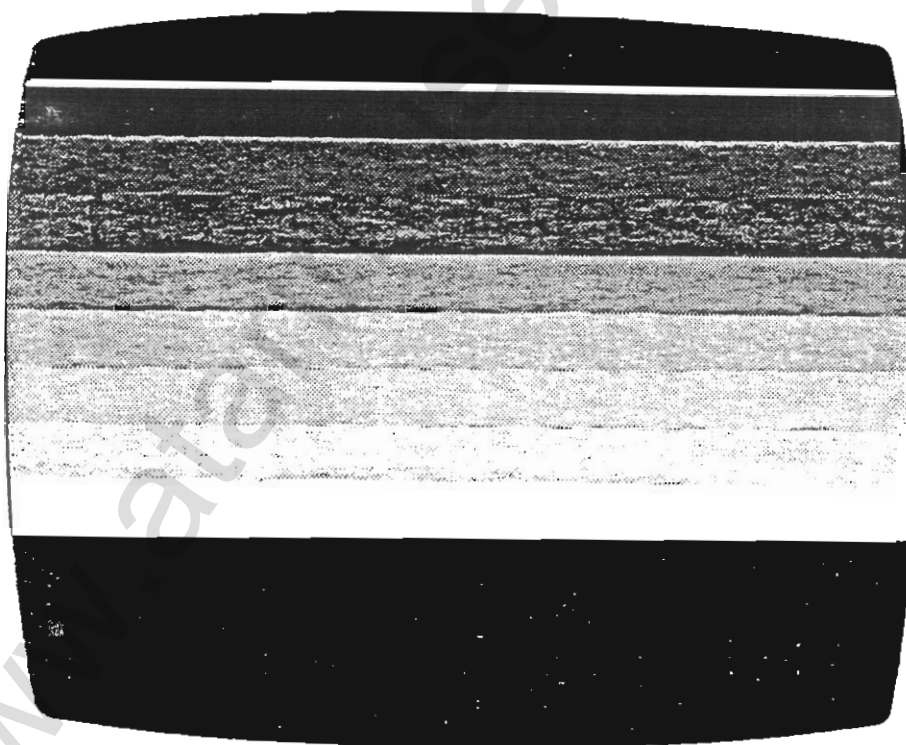

Figure 3-7. Gray Bar Screen
- * Format: Short the color/black and white switch with the proper tool. Eight horizontal gray bars are displayed, going from black at the top to white at the bottom in even steps (See Figure 3-7). The screen should be steady and unchanging. The lines may have minor glitches on their edges. A thin white line always appears just over the top (black) bar. No color should appear anywhere on the screen. The areas above the top (black) bar and below the bottom (white) bar are of no importance to the test. This test should be left on for at least 60 seconds to ensure that there is no "flashing" of color or shifting of the gray bars.